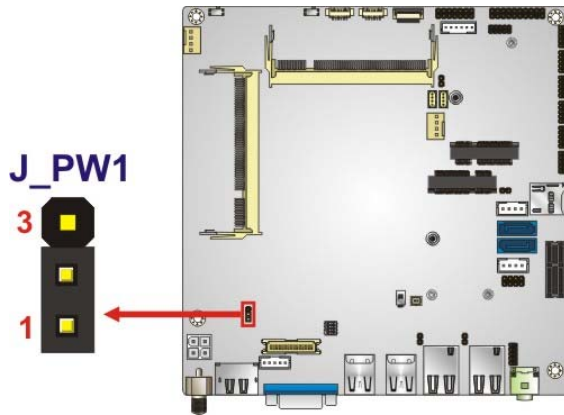

Figure 4-22: LVDS Voltage Select Jumper Location
- Jumper Location:** See Figure 4-22